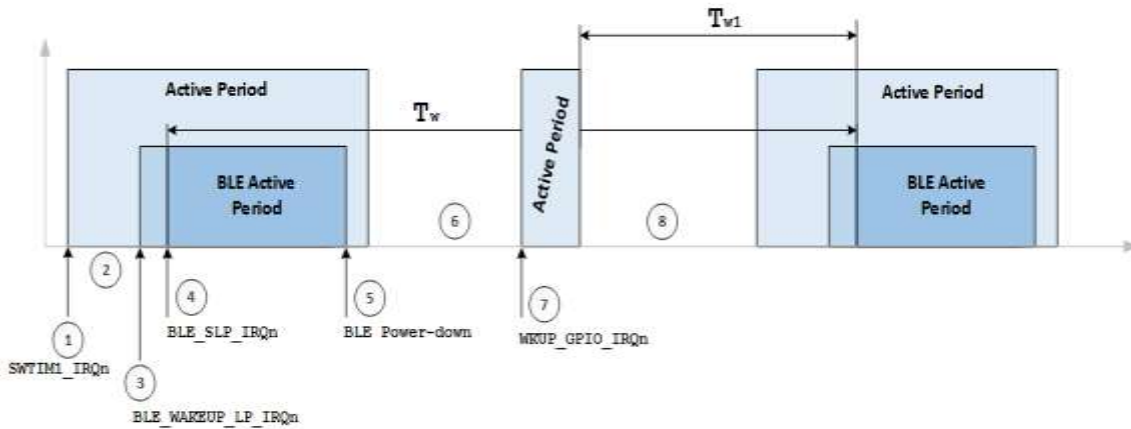

Figure 35: Asynchronous BLE event
Figure 35 presents the wake-up and sleeping process during an asynchronous event.
8. After serving the asynchronous request the CPM puts the system back to Sleep mode. However, the time to wake up is not T_w any more. The CPM must recalculate the time window based on the next scheduled event when BLE needs to be active. The new value is depicted as T_{w1} in Figure 35.